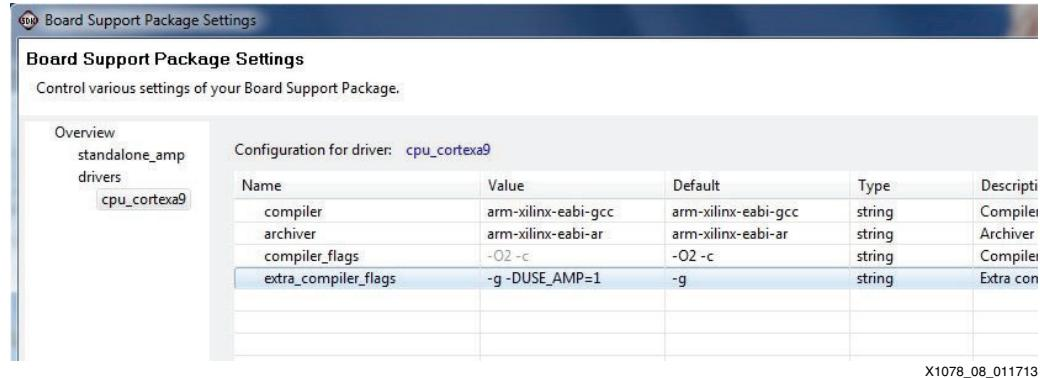

Figure 8: CPU1 BSP Add USE_AMP
- g. Select **Overview > drivers > cpu_cortexa9** and add **-DUSE_AMP=1** to extra_compiler_flags (Figure 8).